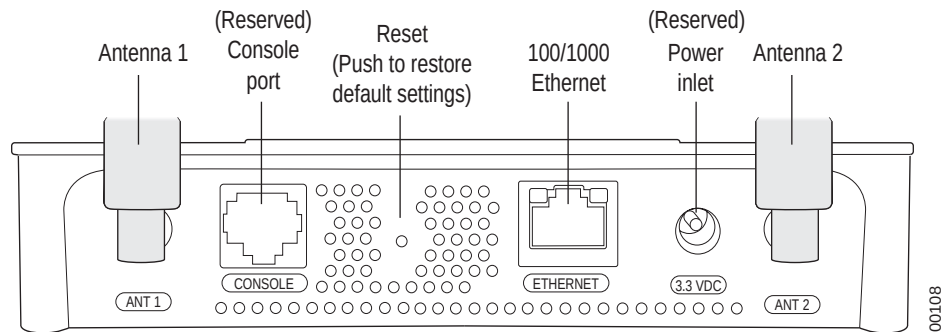

Figure 14: AP200 Connector Panel
3. Connect the PoE 100BaseT Ethernet cable to the 100/1000 Ethernet connector, shown in **Figure 14**.
9. Connect the PoE 100BaseT Ethernet cable or 100BaseT Ethernet cable to the 100/1000 Ethernet connector shown in **Figure 14**.
10. Connect the PoE 100BaseT Ethernet cable to the 100/1000 Ethernet connector (see Figure 14).
12. Connect the Ethernet cable to the AP200 (see Figure 14).